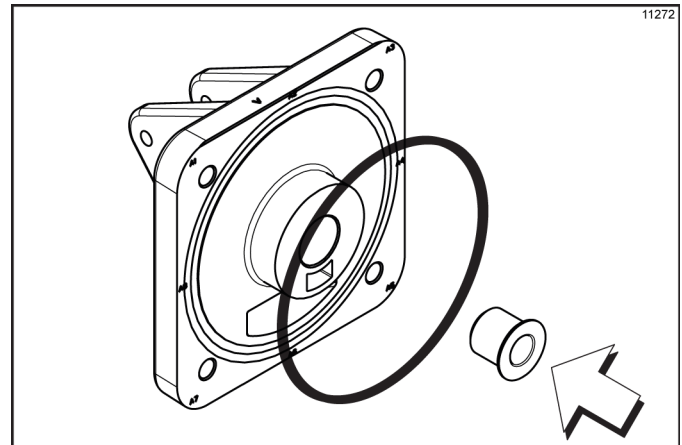

Figure 6-7
6. Place the freezer door O-ring into the groove on the back of the freezer door. **Do not** lubricate the O-ring. Lubricate the outside diameter of the front bearing. Slide the front bearing into the door hub. (See Figure 6-7.)